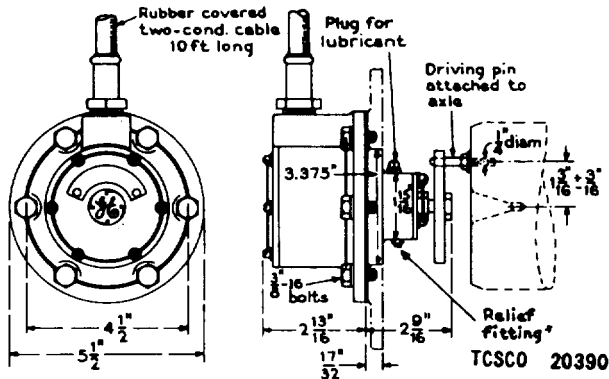

Figure 31. CM-4 Generator assembly method.
*a. Mounting Generator.* Install a driving pin on the end of the axle as shown in figure 31. Bolt the special journal box cover into position. Turn the generator rotor so that the driving arm engages with the pin on the axle. Carefully position the generator against the journal box cover checking that there is clearance between the pin and generator. Bolt the generator, with the drain hole down, to the journal box cover using standard 3/8-16 bolts. Check that the generator shaft is concentric with the wheel axle. Gaskets are provided to make an oil-tight connection. Place a piece of 3/4-inch hose, clamped at both ends, over the generator cable for protection.